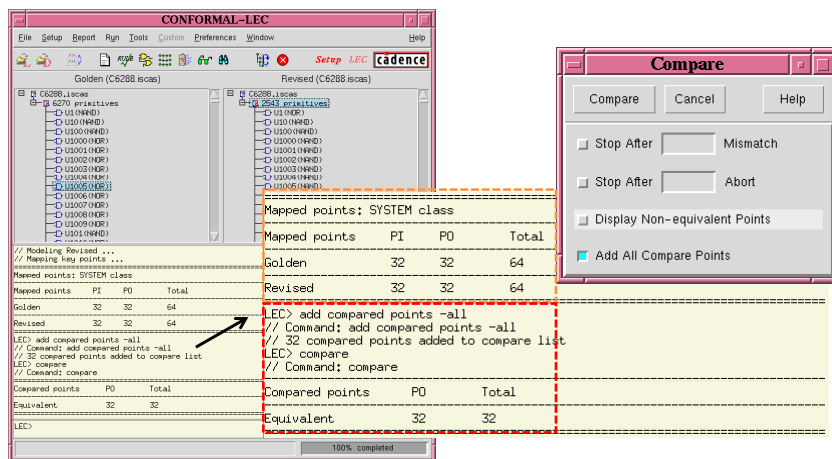

Fig. 17: Conformal map points and equivalence results
Since both the designs have been successfully loaded, we can now start the verification process. Conformal has 2 operating modes, the “Setup” and the “LEC” mode. Switch to the LEC mode by Clicking on the “LEC” icon in the upper right hand corner of the window (see Fig. 17).
A table is now printed in the conformal LEC window. It lists the primary inputs (PI) and primary outputs (PO) in both the revised and golden designs. They are equal if the golden and revised designs have the same number of inputs and outputs. To run the equivalence checker, select “Run \Rightarrow Compare” and click “OK” (see Fig. 17). The equivalence checker now reduces the two designs into canonical representations and then checks to see if they are equal. In the example shown in Fig. 17, all 3 outputs are equivalent. Or in other words, the RTL and the synthesized designs are functionally equivalent.